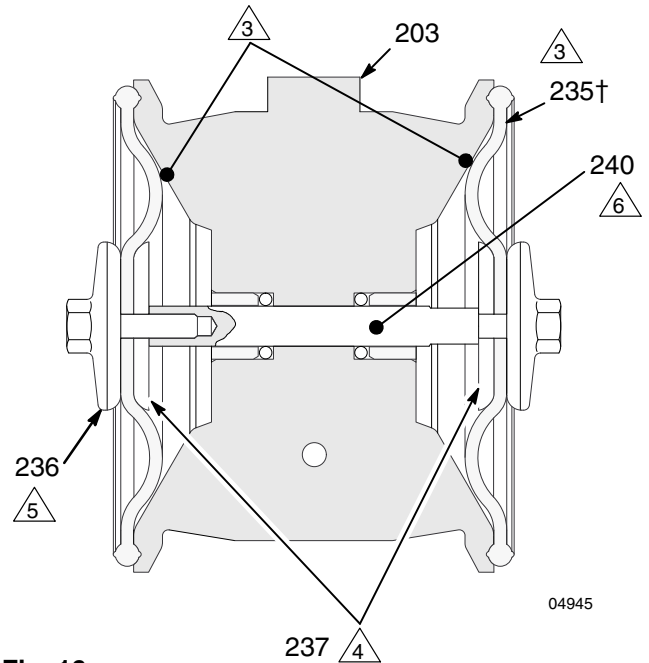

Fig. 16
- Grease the diaphragm shaft (240) and slide it into the housing (203). See Fig. 16.
- Assemble the inner diaphragm plates (237), diaphragms (235†), and outer diaphragm plates (236) *exactly* as shown in Fig. 16. Apply medium-strength (blue) Loctite® or equivalent to the outer diaphragm plate threads, and torque to 75 to 85 in-lb (8.5 to 9.6 N.m) at 100 rpm maximum. **Do not over-torque.** These parts **must** be assembled correctly.